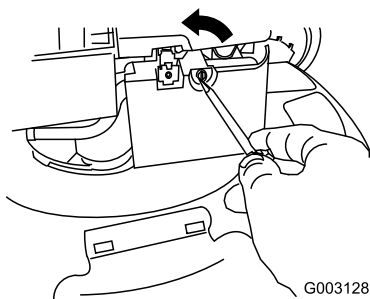

Figure 40
2. Use a screw driver to open the air filter cover (Figure 40).